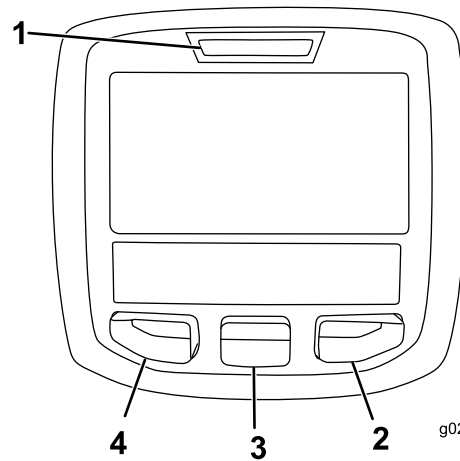

Figure 24
The InfoCenter LCD display shows information about your machine, such as the operating status, various diagnostics, and other information about the machine (Figure 24). There is a splash screen, main information screen, cutting unit (CU) motor information screen, and traction information screen.